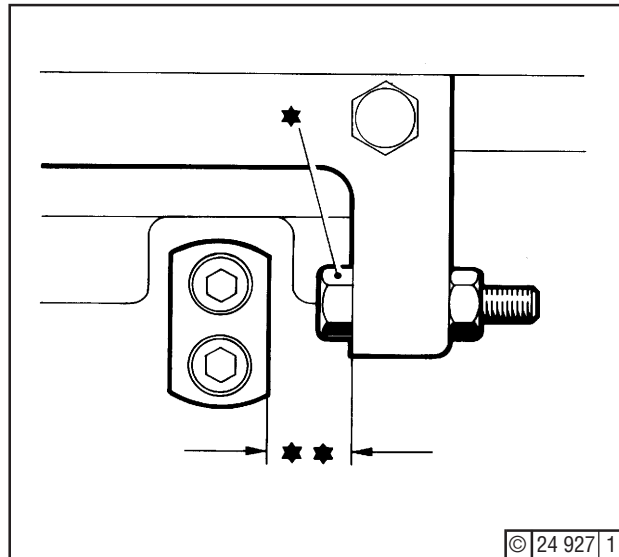

Fig. 5
3. Fully screw in stop screw (*) at point A 13 - Fig. 5 -. Record screw setting (**) where linkage is adjusted repeatedly.